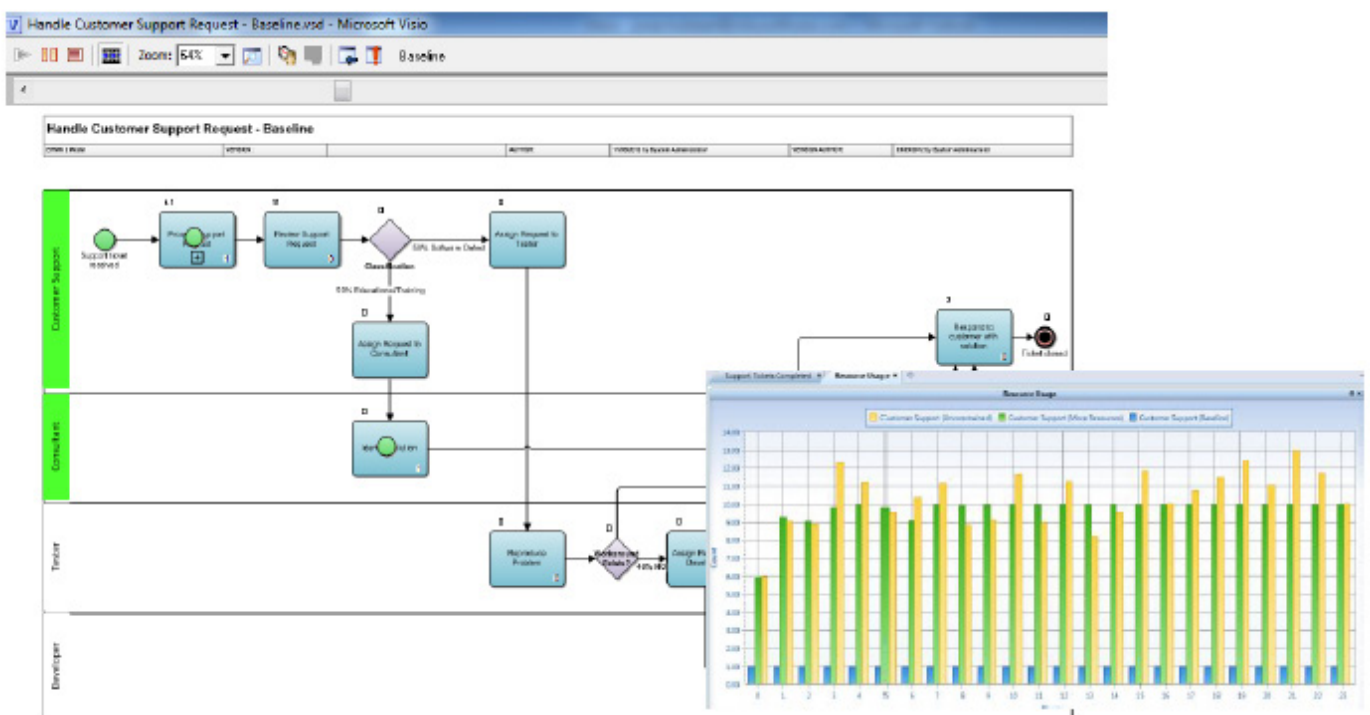

Figure 5: Process Simulation in iServer
- **Simulation** can be a very useful functionality when improving your processes. By simulation, I mean running theoretical instances of a process to try and understand where the bottlenecks are and how the process can be improved; but also to test different improvement scenarios without the risks you would have if you would test it in a real-life environment. In *Figure 5* below you can see an example of a process simulation in iServer. The process, Handle Customer Support Requests, starts when the customer